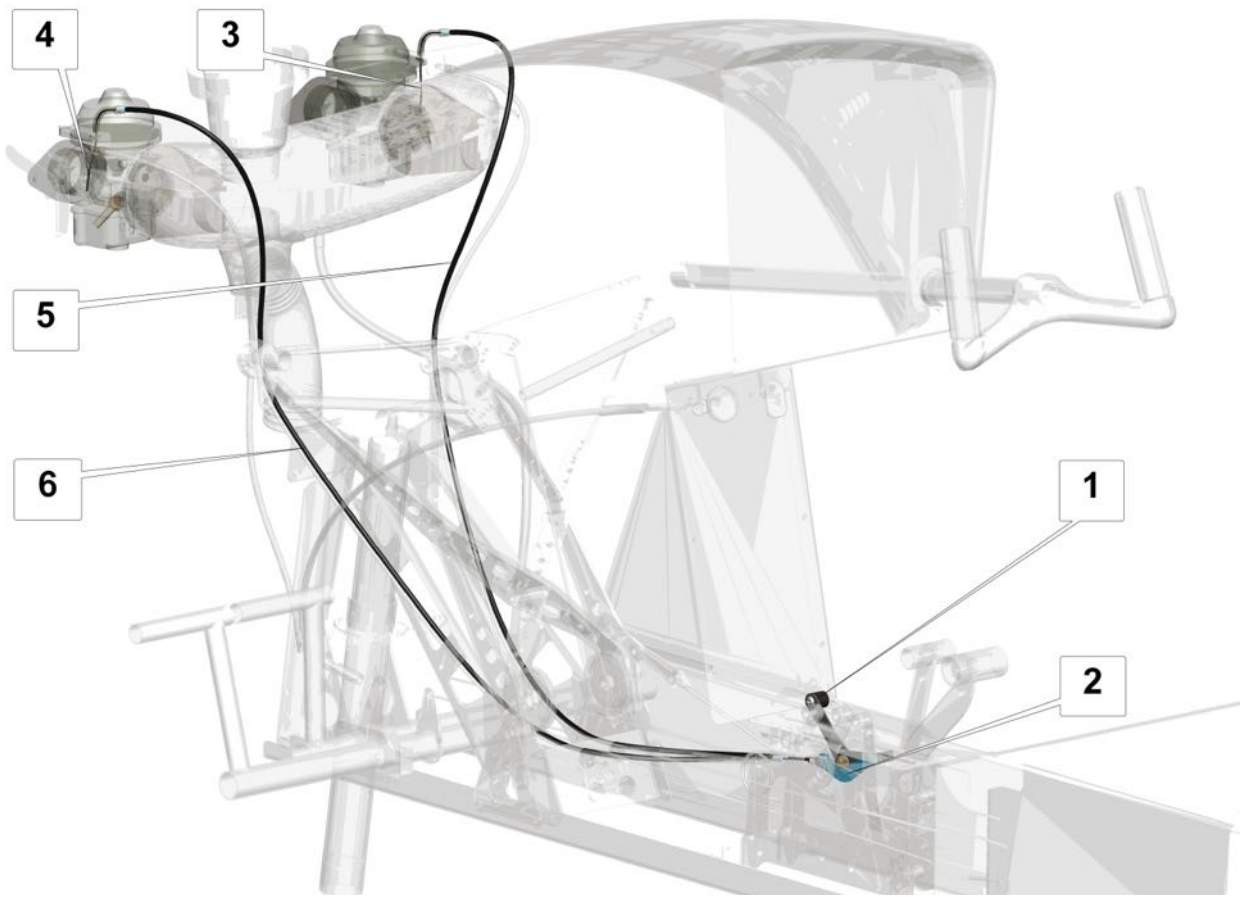

Fig. 10. Engine pre-start mixture control
Engine pre-start mixture control (**Fig. 10**) is achieved using the choke control lever (1), connected with cables to the choke control arms of the right (3) and left (4) carburetor. The cables are passed through the flexible sheaths – the right (5) and the left (6) one.